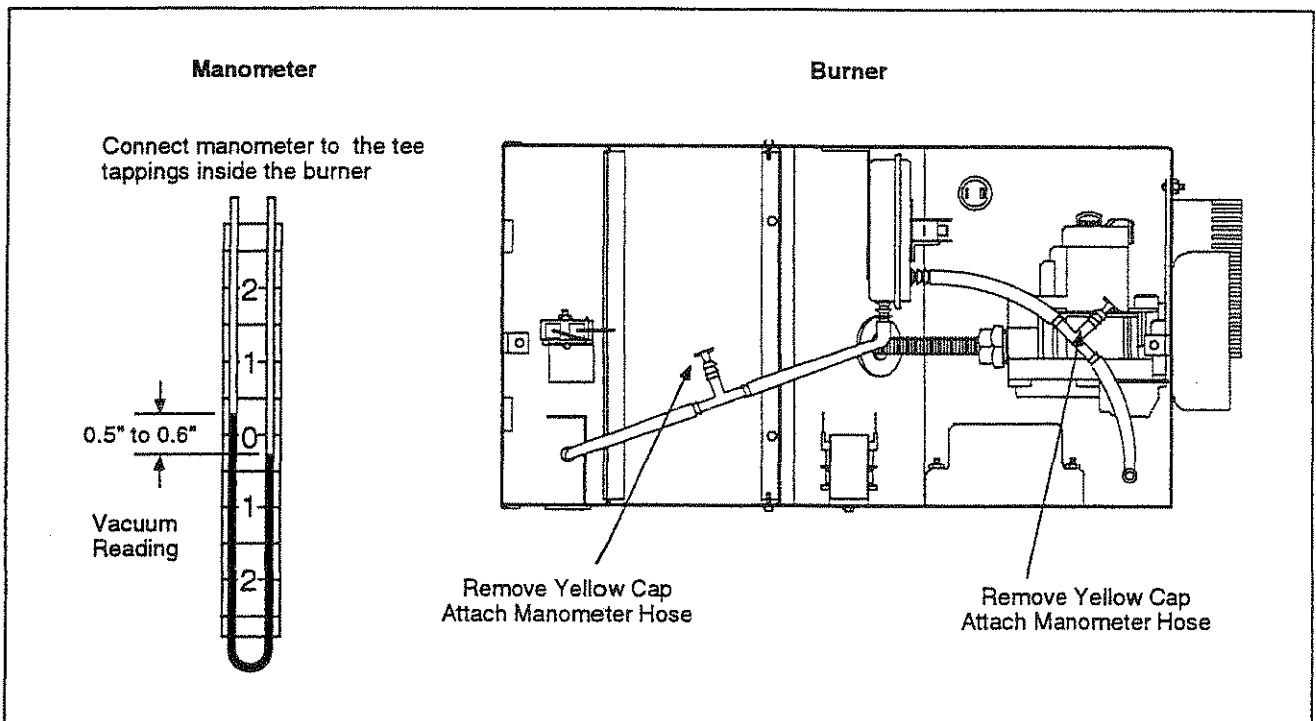

Figure 35. Vacuum Differential Reading
6. Make a preliminary vacuum check at burners in branches which have an adjustable damper coupling. See Figure 35 for vacuum measuring instructions. This check is to ensure that all dampers are open before the system is fired. The vacuum measured in the burner control housing should be approximately 1" to 1-1/2" w.c. differential or more.
2. Allow at least one-half hour operation for temperature to normalize before checking system vacuum balance. Vacuum differential can be measured by connecting a manometer across the "tee" tapings inside the control housing (after measurement, the yellow caps should be installed on the "tees" to prevent leakage). See Figure 35 for manometer connection to burner control housing.